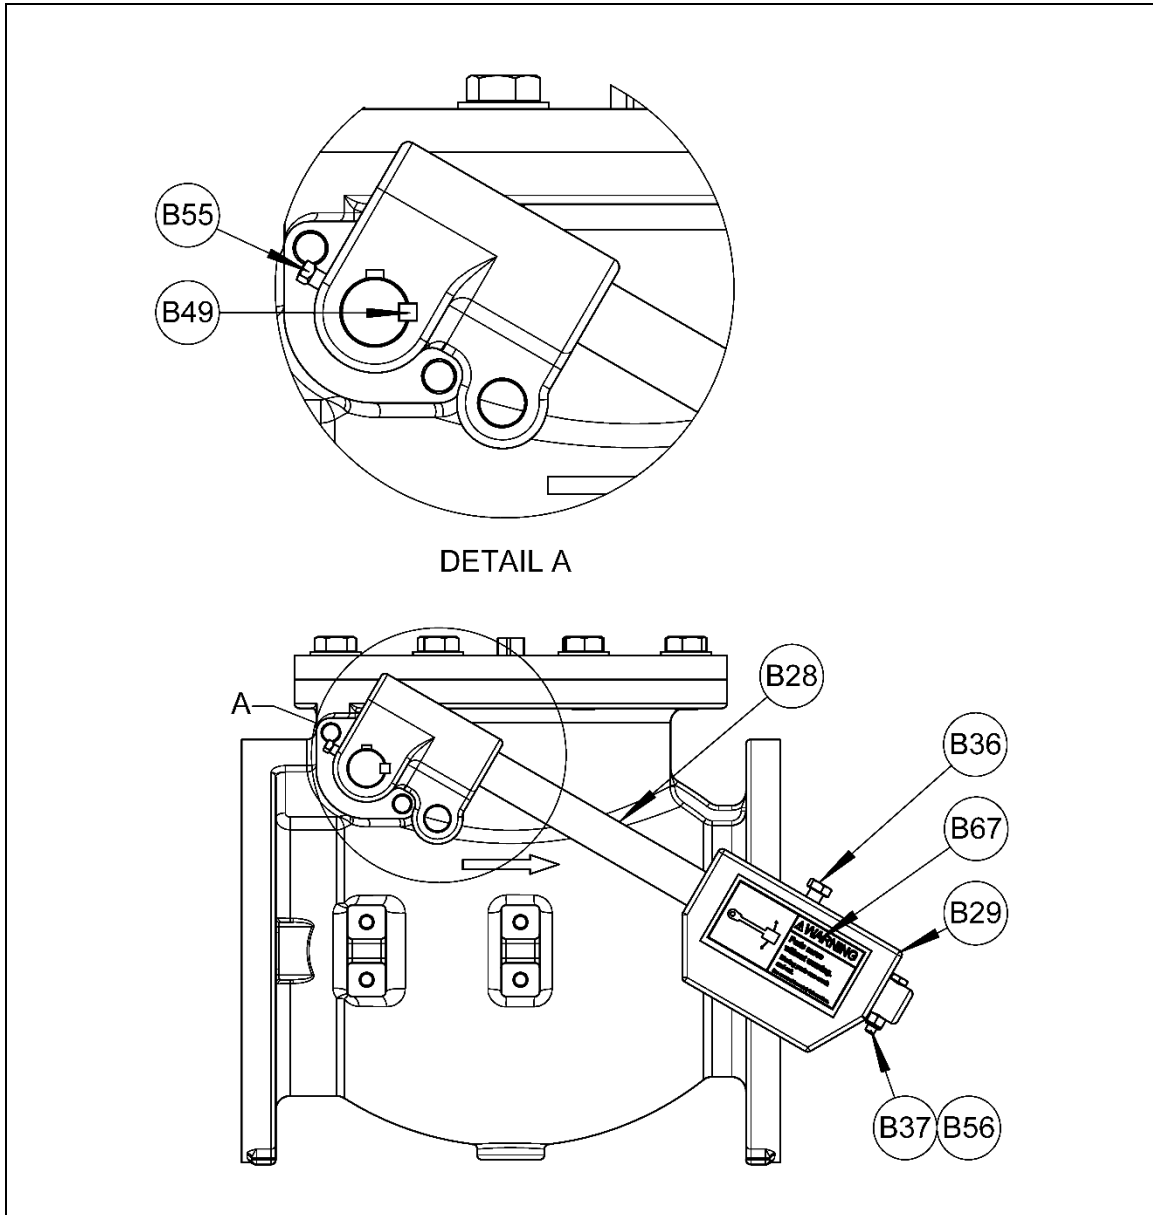

Figure 3: Lever & Weight (LW) Assembly
a. Valves equipped with Lever & Weight (LW) only (Figure 3):